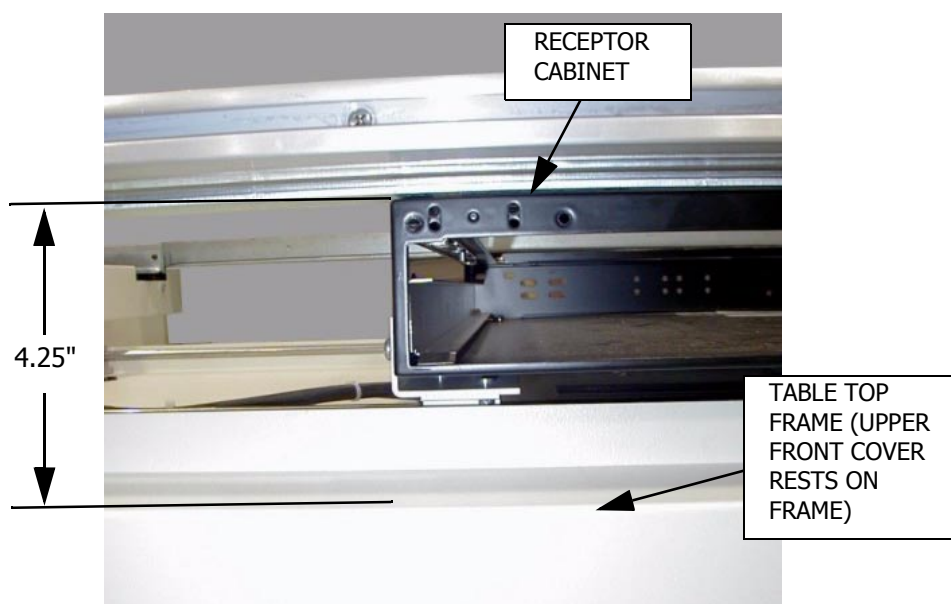

Figure 21. Correct Distance for Receptor Cabinet Installation
2. Remove eight (8) 10-32 x 1/2" screws securing Receptor Cabinet to Receptor Cabinet Mounting Bracket and remove cabinet.
3. Place new Receptor Cabinet inside Receptor Cabinet Mounting Brackets and install eight (8) 10-32 x 1/2" screws. Do not tighten screws.
4. Position Receptor Cabinet in brackets so that the distance measured from the top of the Table Frame to the top of the receptor cabinet is 4.25" (see Figure 21) at all four corners. When this position is achieved, tighten Receptor Cabinet mounting screws.